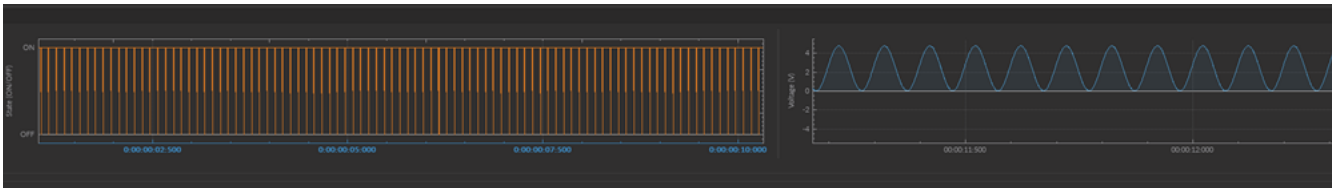

Figure 5.51: Acquisition View - Output graph
- Analog output channels display an **Active state** graph (Fig. 5.51, left panel). This graph displays whether the channel is outputting a signal (On, $V \neq 0$) or not (Off, $V = 0$).
- Output channels display a **Preview** graph (Fig. 5.51, right panel), showing a preview of the pulse sequence.